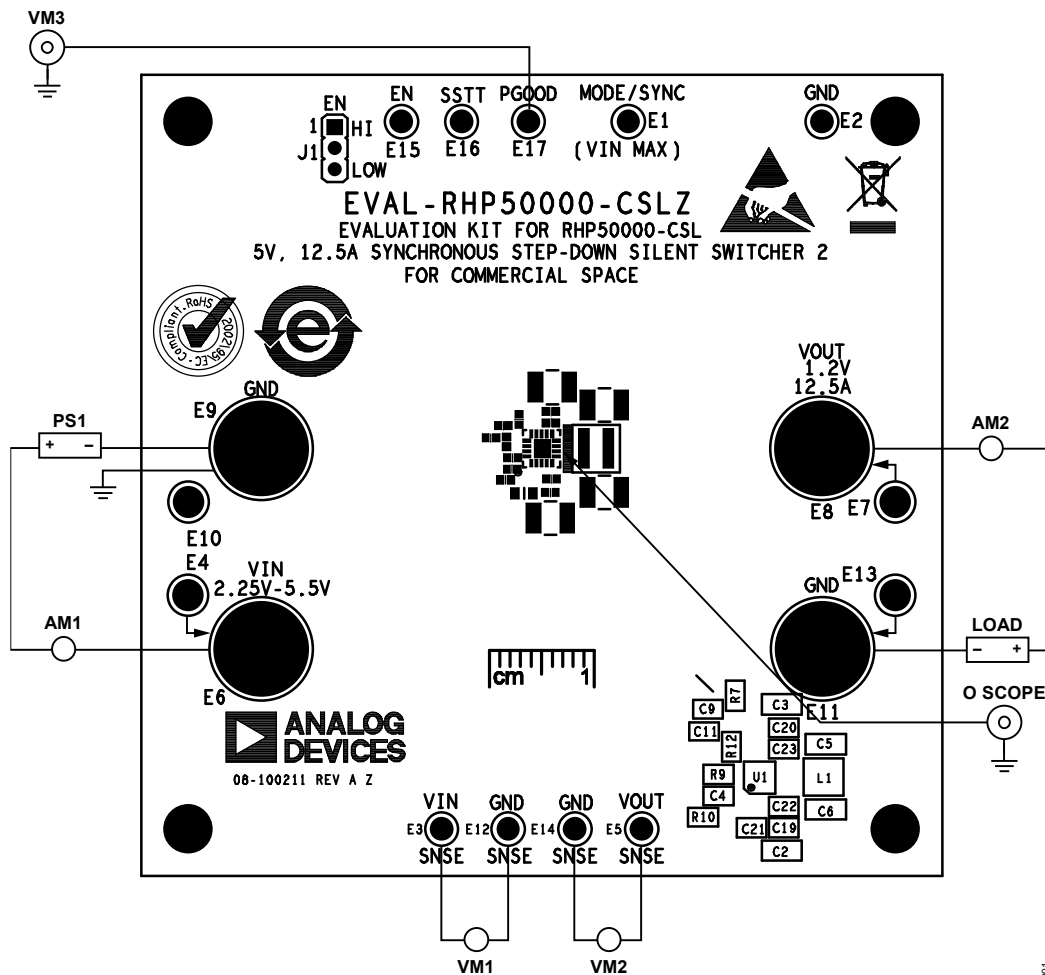
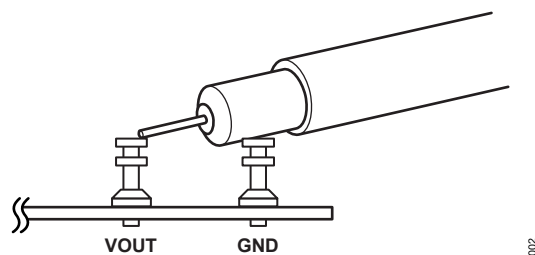

Figure 1. Test Setup for the EVAL-RHP50000-CSLZ Evaluation Board
Figure 2. Technique for Measuring Output Ripple
EVAL-RHP50000-CSLZ is easy to set up and evaluate the performance of the RHP50000-CSL. See Figure 1 for proper measurement equipment setup and follow the procedure below.
NOTE: For accurate V_{IN} , V_{OUT} and efficiency measurements, measure V_{IN} at the VIN SNSE and GND SNSE turrets and V_{OUT} at the VOUT SNSE and GND SNSE turrets as illustrated as VM1 and VM2 in Figure 1. When measuring the input or output voltage ripple, care must be taken to avoid a long ground lead on the oscilloscope probe. Measure the output voltage ripple by touching the probe tip directly across the output turrets as shown in Figure 2.
3. Slowly increase PS1 to 1V. If AM1 reads less than 20mA, increase PS1 to 3.3V. Verify that VM1 reads 3.3V and VM2 reads 1.2V. Record VM1, VM2, VM3, AM1, and AM2. Connect an oscilloscope voltage probe as shown in Figure 2. Set Channel to AC-coupled, voltage scale to 20mV and time base to 10 μ s. Record V_{OUT} ripple voltage. Verify that PGOOD voltage is above 3V. Calculate die temperature using formula below:
4. Increase the load by 1A intervals up to 12A and observe the voltage output regulation, ripple voltage, and the voltage on the SSTT turret. Observe the switching waveform by contacting a second voltage probe, set to 1V scale, to the SW node of UI pins 6, 7, 8, and 9 as shown in Figure 1.